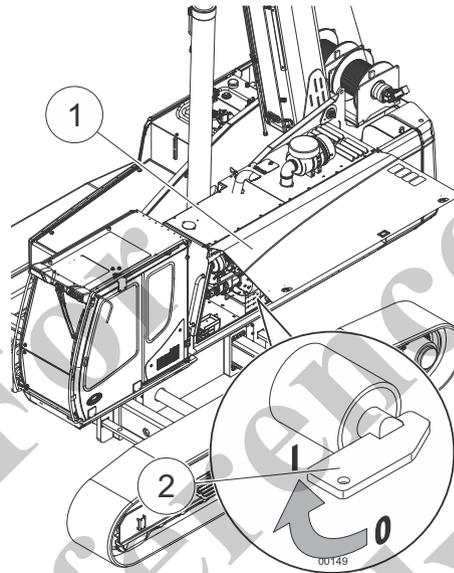

Fig. 15 Switching on the battery disconnect switch
1	Open the left service access door (1) in Fig. 15.
2	Turn the battery disconnect switch (2) in Fig. 15 to position I.